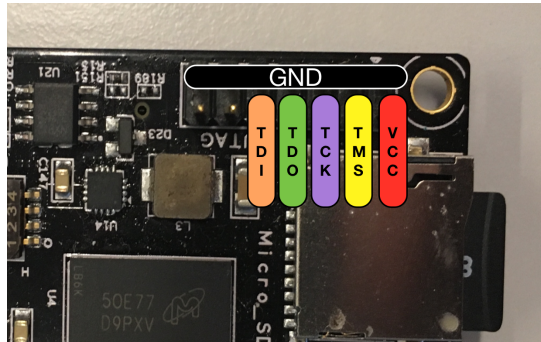

Figure 17: JTAG pinout
- Connect the programmer on the JTAG port. Make sure the connector matches the pinout from Figure 17.